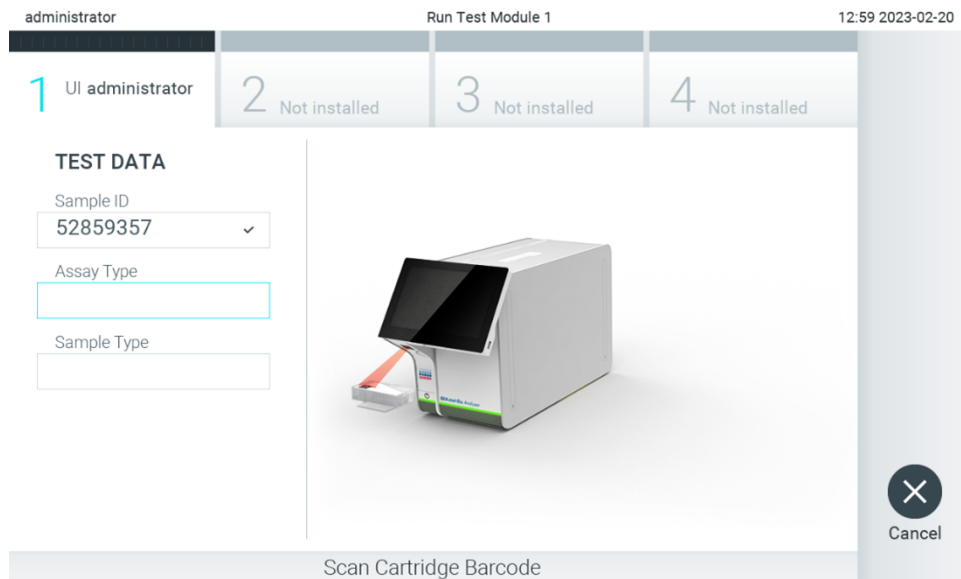

Figure 24. Scanning the QIAstat-Dx assay cartridge bar code.
3. When prompted, scan the bar code of the QIAstat-Dx assay cartridge to be used. The QIAstat-Dx Analyzer 2.0 automatically recognizes the assay to be run, based on the QIAstat Dx assay cartridge bar code (Figure 24).
Note: Use the barcode on the side of the cartridge (as indicated in Figure 24) and not the barcode on the packaging of cartridges.